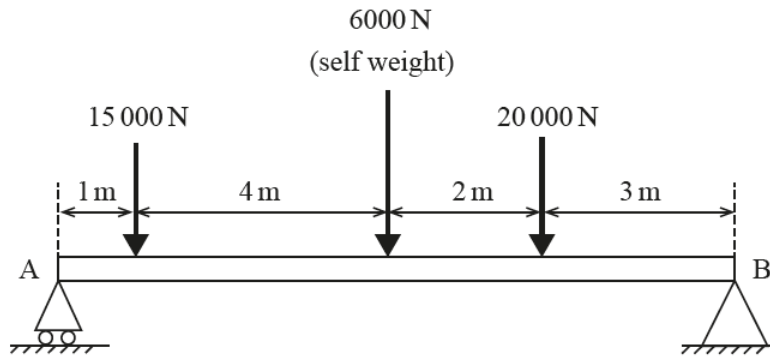

Fig. 8
- (b) Fig. 8 shows a uniform beam of length 10 m which is simply supported at ends A and B. The beam is subjected to two external forces of 15 000 N and 20 000 N acting vertically downwards at the positions indicated. The self-weight of the beam is represented by a force of 6000 N acting vertically downwards at its centre as shown.